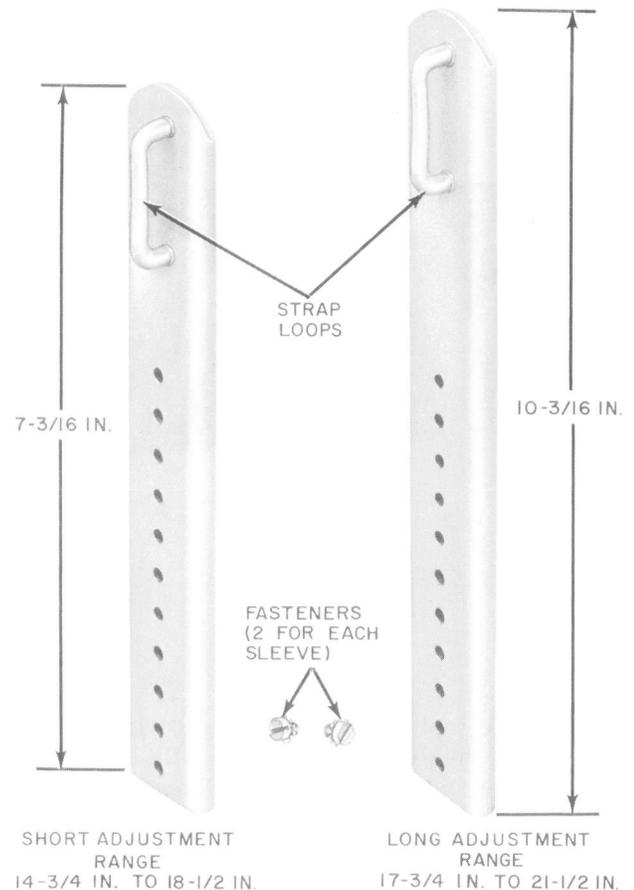

Fig. 3—Sleeves for Adjustable Climbers
2.07 The sleeves used on adjustable climbers are designed to fit snugly over the shank of the leg irons and to be securely locked in the desired position by fasteners. The sleeves are available in two lengths and can be adjusted in increments of 1/4 inch. Figure 3 illustrates the sleeves, the lengths available, and the adjustment range of each sleeve.
3.01 Determine the correct sleeve to use by measuring the distance from the lower edge of the projecting kneebone to the underside of the shoe at the arch as shown in Fig. 8 and subtract 1/2 inch from this length. Select the climber sleeve that covers this range (2.07, Fig. 3). When ready to assemble the climber for use, proceed as follows: